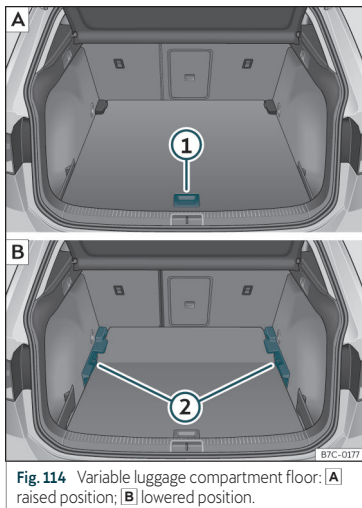

Fig. 114 Variable luggage compartment floor: **A** raised position; **B** lowered position.
- To move from the low position to the high position, lift the floor using the handle >>> **Fig. 114 ①**, and pull it back until the front of the floor has fully passed the supports >>> **Fig. 114 ②**.
- Move the floor forward over the supports as far as the rear seat backrest and then lower the floor with the handle ①.
- To move from the high position to the low position, lift the floor using the handle >>> **Fig. 114 ①**, and pull it back until the front of the floor has fully passed the supports >>> **Fig. 114 ②**.
- Now let the front part fall to the floor and slide the floor forwards as far as the rear seat backrest; lower the floor at the same time with the handle ①.
- Lift the variable floor in the high position using handle >>> **Fig. 114 ①**, pull it up and push it towards the backrest of the rear seats until it folds along the hinge line and the movable part of the floor is resting on itself.
- To move from the high position to the low position, lift the floor using the handle >>> **Fig. 114 ①** and pull it back a little.
- Push the variable floor towards the folded rear seats with the handle ① using some downward pressure so that the moving part of the floor is flush with the backs of the rear seats.